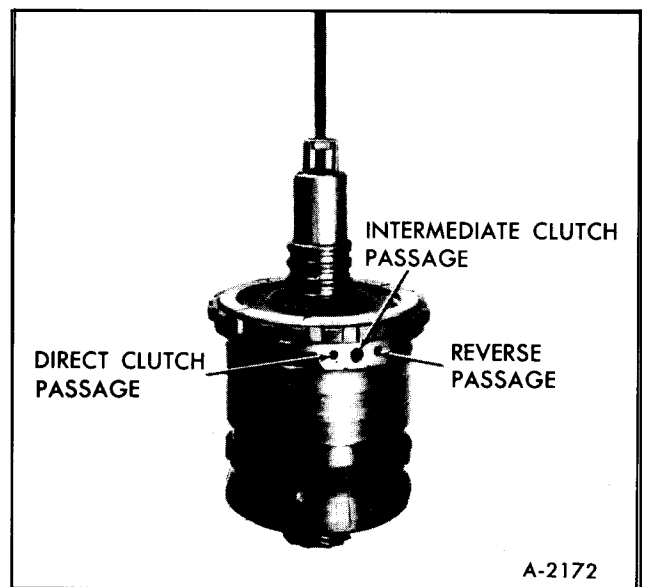

Figure 48—Gear Unit on Bench
8. Place gear unit assembly on bench with output flange down, Figure 48. Remove Tool J-21795.